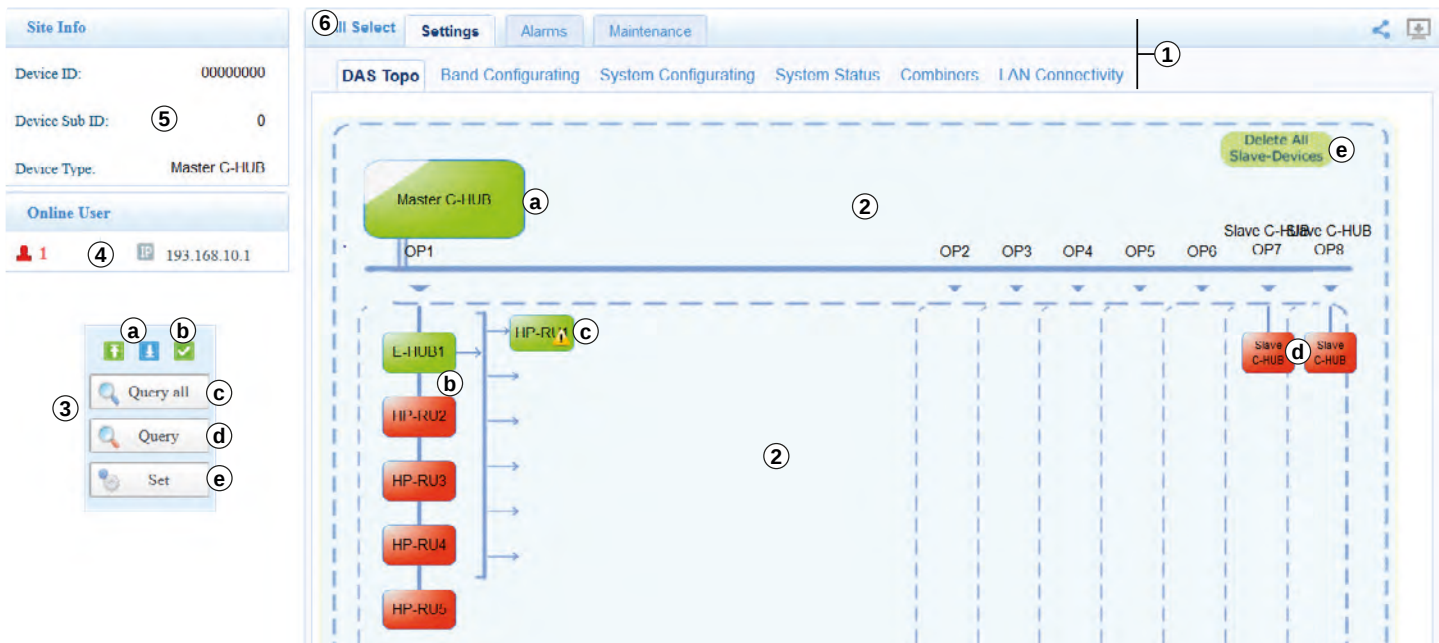

Fig. 18: Web GUI of master C-hub (homepage)
When the web GUI was opened, it always shows the menu item **Settings** ▶ **DAS Topo**(logy) (② in Fig. 18). Else, the following elements are always visible:
- Main menu ① and parameter select button ⑥
- Control menu ③ (movable)
- Device ID indication ⑤
- Indication of currently connected users ④